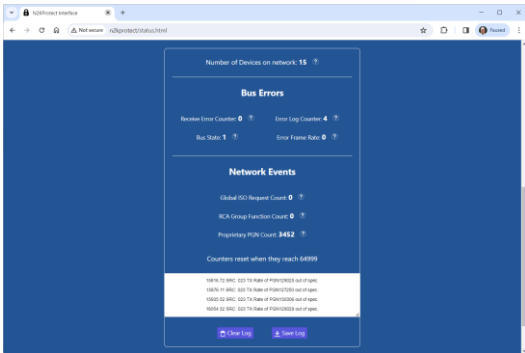

Figure 3
- Other indicators include (see Fig 3);